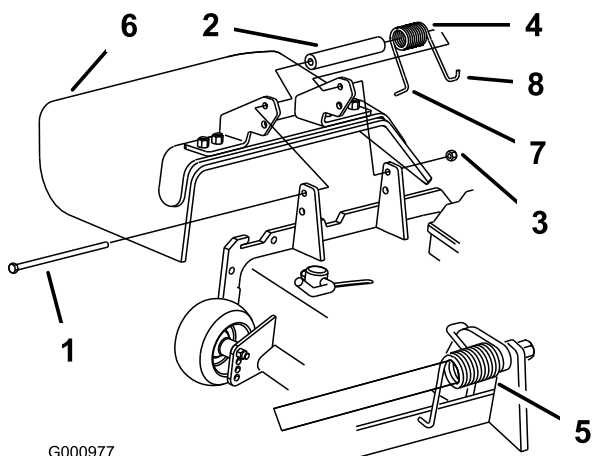

Figure 93
1. Remove the locknut, bolt, spring and spacer holding the deflector to the pivot brackets (Figure 93). Remove the damaged or worn grass deflector.
Note: Make sure the **L** end of the spring is installed behind the deck edge before installing the bolt as shown in Figure 93.
3. Install the bolt and nut. Place the **J** hook end of the spring around the grass deflector (Figure 93).